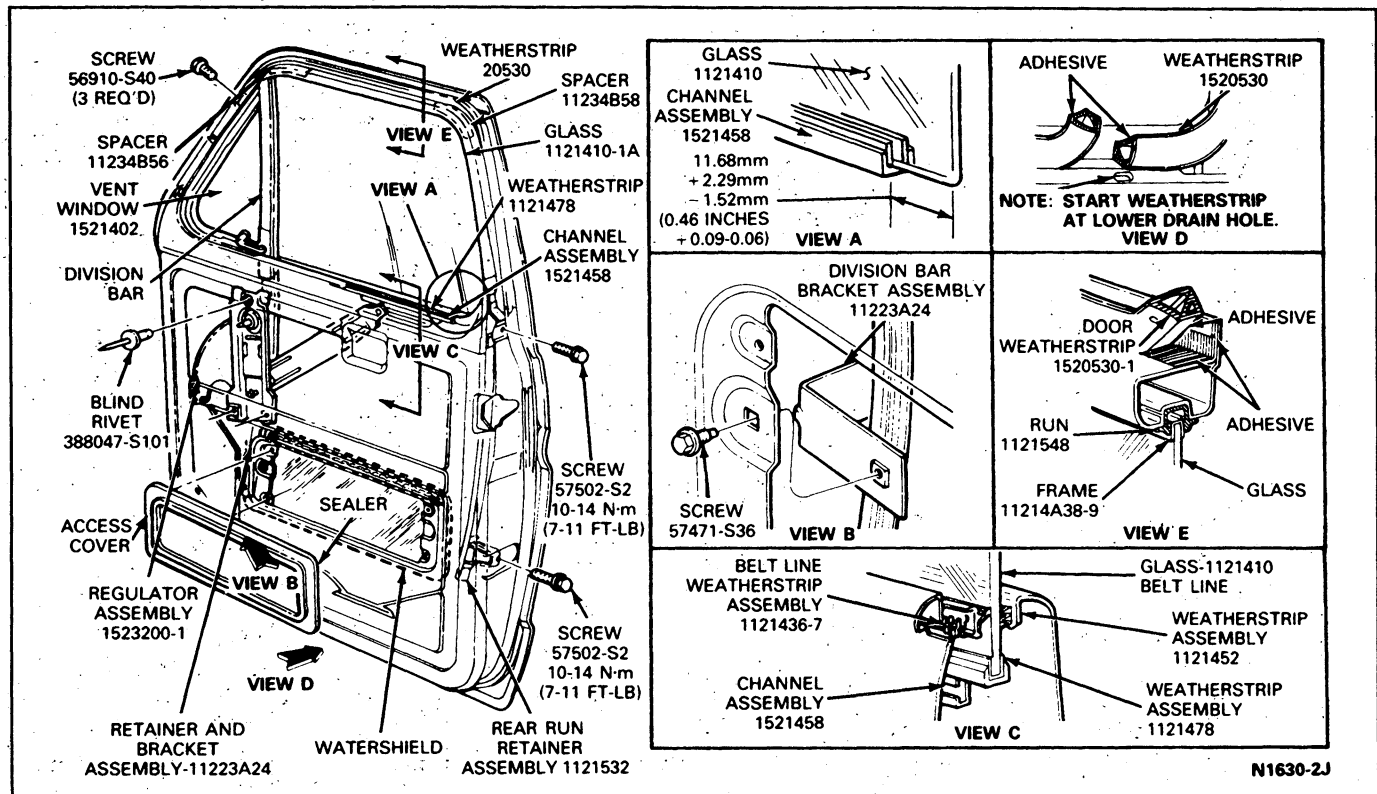

FIG. 2 Front Door Window Glass—E-150—E-350
2. Remove three screws attaching the vent window assembly to the upper leading edge of the door (Fig. 2).
3. Remove one screw attaching the division bar bracket to the door (Fig. 2, View B).